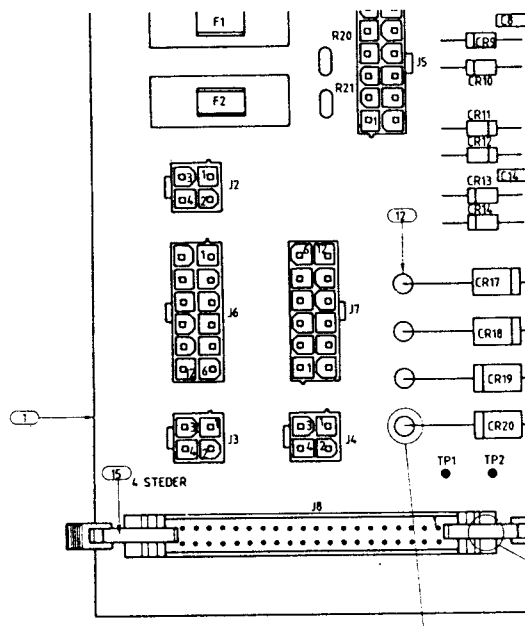
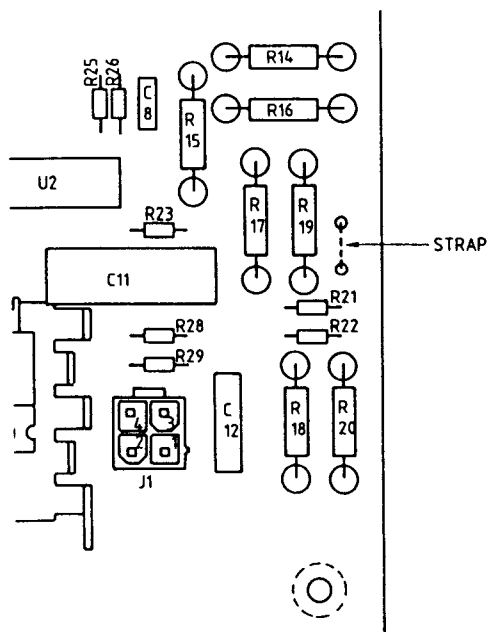

Figure 2.1. Code plug on A10A1
Figure 2.2. Strap on A13
(refer to Fig. 2.1 and Fig. 2.2).
- f. Remove the codeplug P1 from J7 (220 Vac) and reinsert the plug in J6 (115 Vac). Refer to fig. 2.1.
- j. Install a strap as shown in figure 2.2.